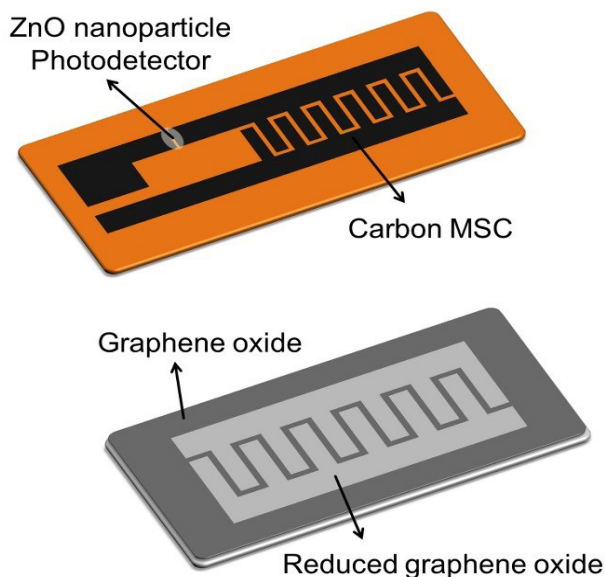

Figure 3. Schematic images of an integrated photodetector (top) and a rGO/GO/rGO humidity sensor (bottom) prepared by laser direct writing.
(Internet of Things) technology, thence it is very important to develop various types of sensors for flexible devices. Laser direct writing can play an important role in preparing sensors directly on the flexible substrate with high performance and stability. For example, a photodetector for UV light can be fabricated by laser direct writing and deposition of ZnO nanoparticles, and can be integrated into the PI film with a carbon MSC fabricated by laser-induced carbonization, forming an integrated photodetector for practical use (Fig. 3, Top). Besides, a humidity sensor based on an interdigitated reduced graphene oxide (rGO)/graphene oxide (GO)/rGO structure prepared by laser direct writing was also demonstrated with high and fast response, flexibility, and long-term stability, showing the potential to be used in flexible devices (Fig. 3, Bottom).